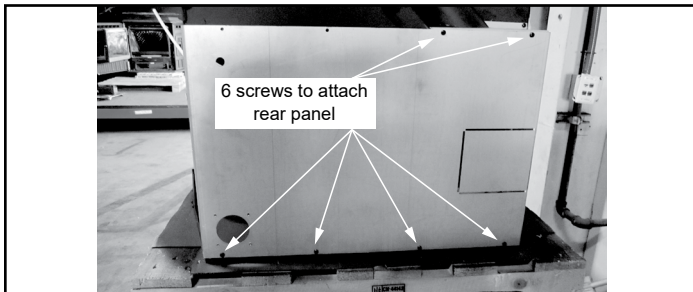

Figure 22.2
5. Install the Rear Panel using six screws (**Figure 22.2**).